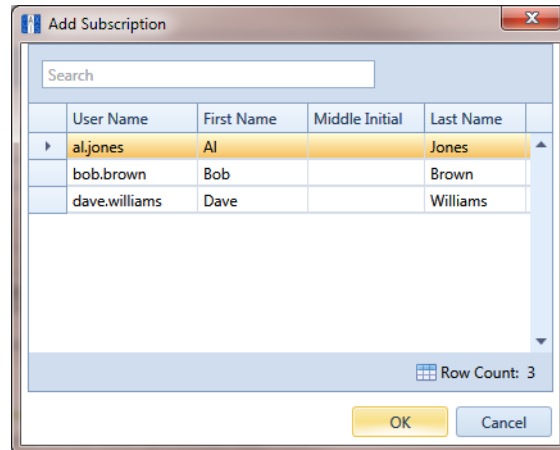

Figure 17-5. Add Subscription
- 2 Click **+ Add** to open the *Add Subscription* dialog box (Figure 17-5, page 736).